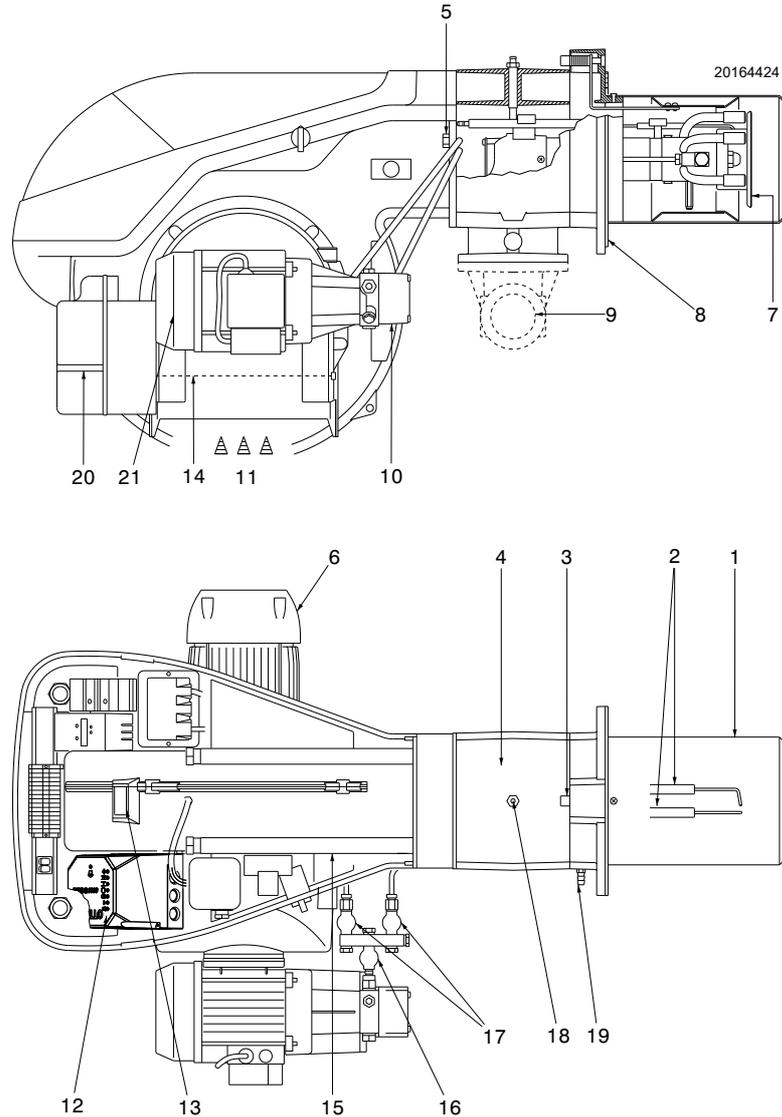

Fig. 4
- (1) Reference conditions: Ambient temperature 20°C - Gas temperature 15°C - Barometric pressure 1013 mbar - Altitude 0 m a.s.l.
(2) Pressure at test point 18)(Fig. 4 on page 12) with zero pressure in combustion chamber and at maximum burner output.
(3) Sound pressure measured in manufacturer's combustion laboratory, with burner operating on test boiler and at maximum output. The sound power is measured using the "Free Field" method, required by the EN 15036 standard, and according to an "Accuracy: Category 3" measurement, as described in EN ISO 3746.
(4) Blast tube: short-long
if the control box 12)(Fig. 4) push-button lights up, it indicates that the burner is in lockout.